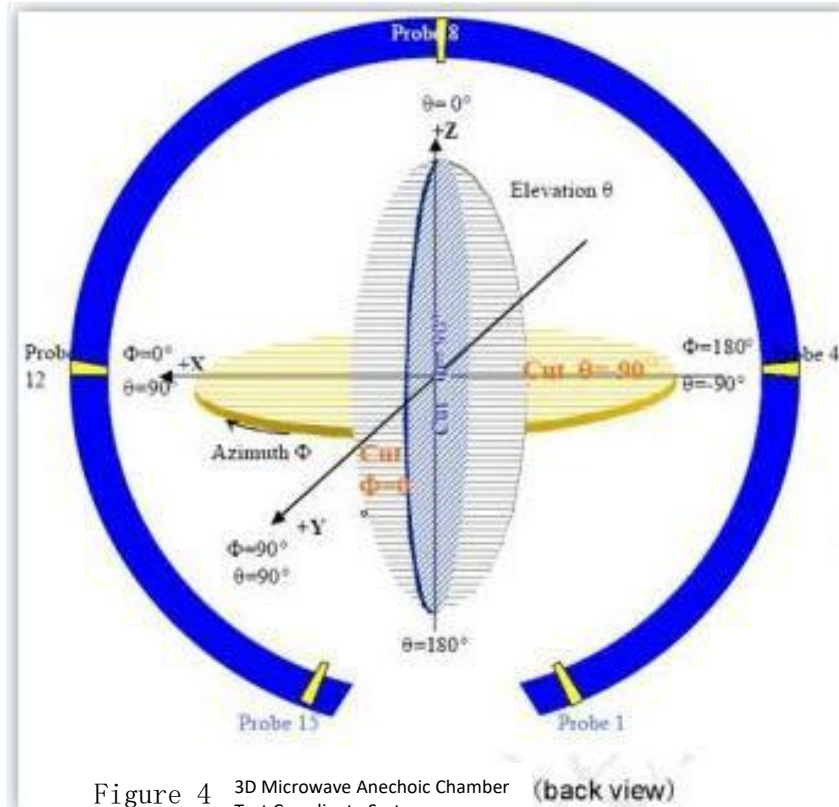

Figure 4 3D Microwave Anechoic Chamber Test Coordinate System
FPC Finished antenna (一) ↓  (2) 100pcs of products per PE bag (subject to actual packaging) ↓  (3) Put the neatly packed antenna small packaging bag into 10 small bags (as shown in Figure 3) (based on the actual packaging) ↓  (4) The packaged antenna can be placed in a cardboard box and can hold 5 large bags. Each box can hold 5000PCS (Figure 4). (Based on actual packaging) ↓  (5) After packaging is completed, a shipping label needs to be attached (Figure 5)